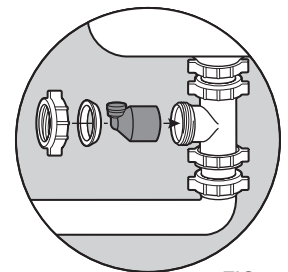

FIG. 4
5. Insert new drain line adapter with push-in connector (provided) into side outlet of tee, and rotate towards incoming 1/4", 3/8", or 1/2" reject water drain tube. Make sure that adapter is firmly seated in bottom of socket, then tightly secure with beveled S.J. washer and wing nut (provided). (See Fig. 4)